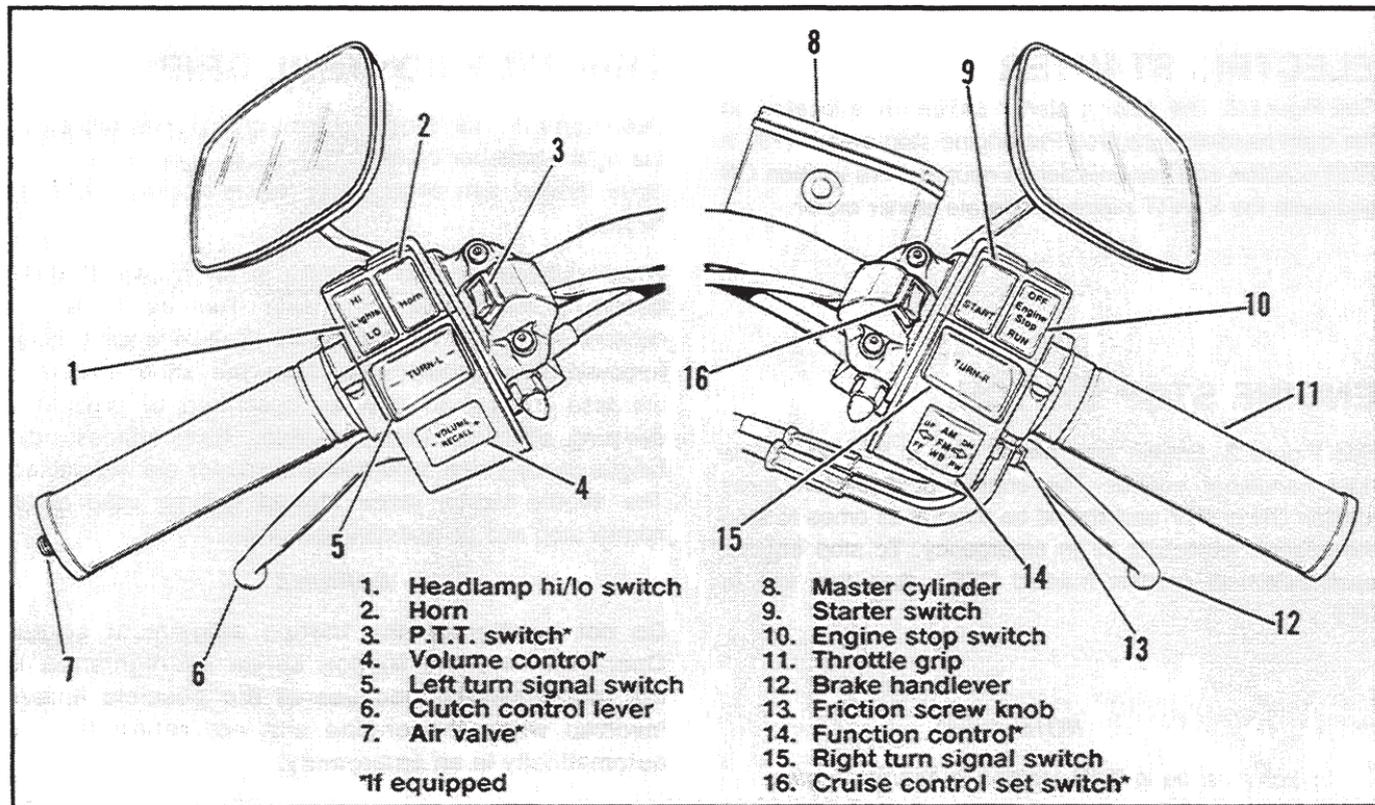

Figure 2. Handlebar Controls
See Figure 2. The electric starter switch (9) is located on the right handlebar control. Put engine stop switch (10) in RUN position and transmission in neutral. Turn ignition ON and push the START switch to operate starter motor.
See Figure 2. Engine stop switch (10) is located on the right handlebar control. The engine stop switch turns ignition ON or OFF and should be used at all times to stop the engine, especially in an emergency. To stop engine, push switch to position marked OFF - then turn key to OFF.
See Figure 2. The throttle control grip (11) is located on the right handlebar control. Turn control grip clockwise to close throttle; turn control grip counterclockwise to open throttle.
See Figure 2. The clutch hand lever (6) is located on the left handlebar where it is operated with the fingers of the left hand. Pull lever in against handlebar grip to disengage clutch; release the lever slowly to its outward position to engage clutch.
The brake pedal controls the rear wheel brake and is located on the right side where it is operated by the right foot. See Figure 2. The brake hand lever (12) controls the front wheel brake and is located on the right handlebar, where it is operated by the fingers of the right hand.
See Figure 2. The horn is operated by the horn switch (2) on the left handlebar control.
See Figure 2. The headlamp dimmer switch (1) on the left handlebar controls the headlamp high and low beams.
## Controls (Figures 2 and 5 and Table 2)
See Figure 2. The right handlebar turn signal switch (15) operates the right front and right rear flashing lamps. The left handlebar turn signal switch (5) operates the left front and left rear flashing lamps. Front turn signal lamps also function as running lamps.